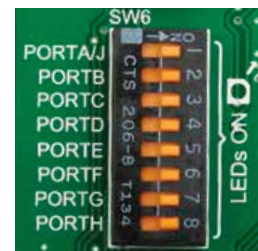

Figure 6-6: SW6.1 through SW6.4 switches are used to enable PORT LEDs
the current value specified by the manufacturer. The current varies from 0.2mA to 20mA, depending on the type of the LED and the manufacturer. The EasyPIC PRO v7 board uses low-current LEDs with typical current consumption of 0.2mA or 0.3mA, depending of VCC voltage selection. Board contains 69 LEDs which can be used for visual indication of the logic state on PORT pins. An active LED indicates that a logic high (1) is present on the pin. In order to enable PORT LEDs, it is necessary to enable the corresponding DIP switch on **SW6** (Figure 6-6).